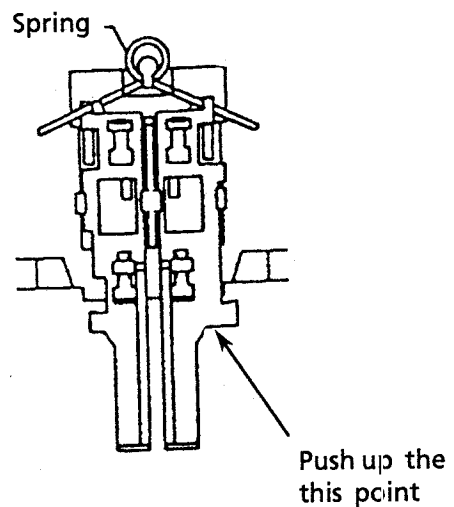

Fig. 8
1. Remove the (1)(2)(3)and (4),(5),(8) .
3. Push up the E lever as shown in the figure below (Fig. 8) and remove the door lock plate.